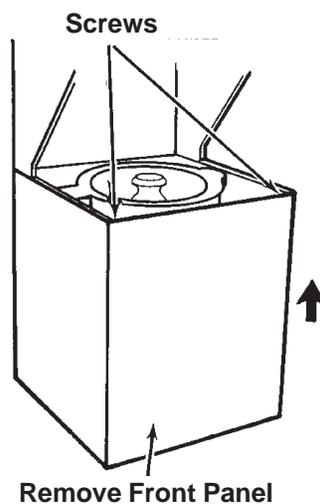

Fig. 5-9
5. Remove the two screws from inside the top of the washer front panel. (Fig. 5-9)